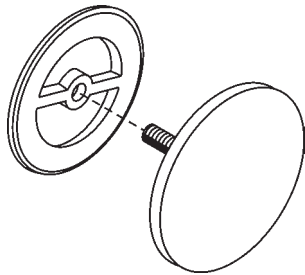

figure 16
23. Place the Back Plate over the screw of the overflow cover (figure 16).